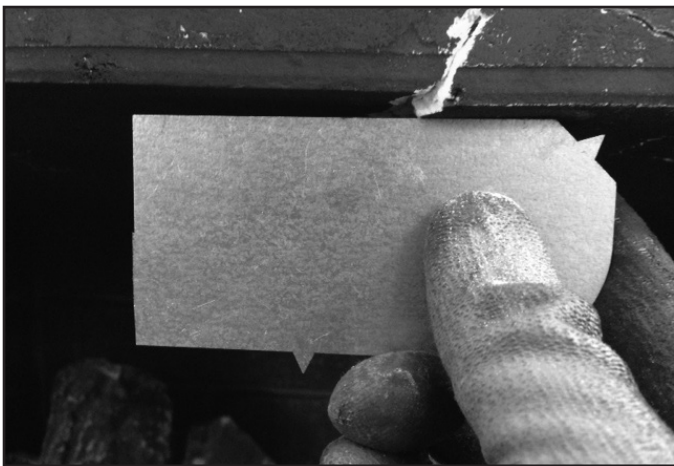

Figure 4.6. Surface plane of firebox is comprised and should be replaced.
- Cracks compromising the surface plane of the firebox. See Figure 4.6.